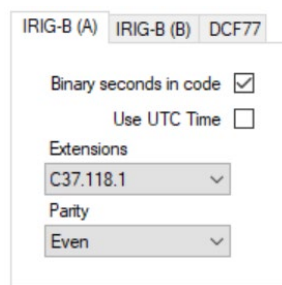

Figure 31 - IRIG-B sub-tabs with multiple streams
**Note: On clocks which support multiple IRIG-B streams, two sub-tabs which are labelled “IRIG-B (A)” (IRIG-B Stream A) and “IRIG-B (B)” (IRIG-B Stream B) will appear. Refer to Figure 31. Under “Payload” in the individual port settings, the user will be able to configure the port to use either IRIG-B stream.**